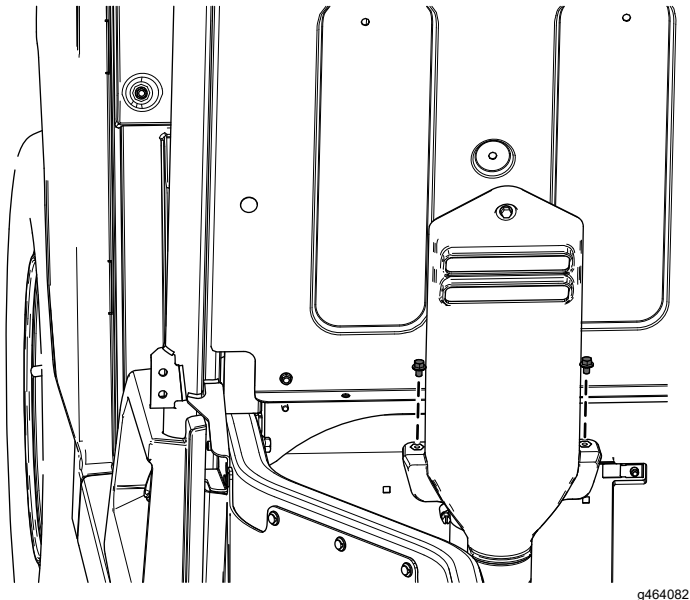

Figure 23
- A. Remove the 2 flange-head bolts (1/4 x 3/8 inch) from the CVT-intake hood (Figure 23). Retain the bolts.